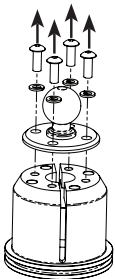

Figure 2
6. Use the $5/64$ " Hex Key to unfasten the *Base Plate* from the *Steering Stem Nut* as shown in Figure 2.